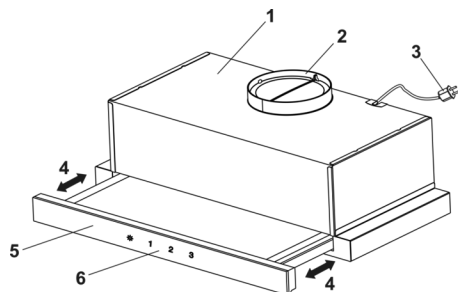

Fig. 3
5.4 The cooker hood consists of the following parts (Fig. 3 / 3.1):